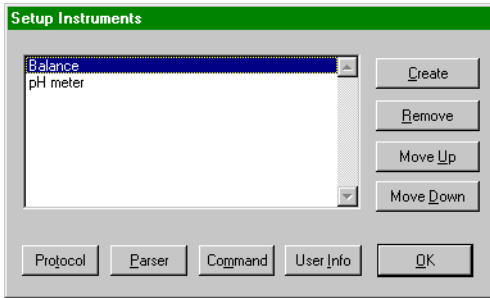

Figure 5.1: Setup Instruments dialog box
2. Pull down the **C**onfigure Menu and select **I**nstrument to open the [Setup Instruments] dialog box, as seen in Figure 5.1.
2. Click the '**OK**' button in the [Setup Instruments] dialog box (see Figure 5.1, Page 44) to make your open instrument the active window again.